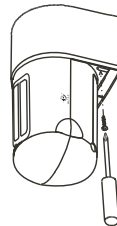

Fig. 18
5. Clamp the sensor to the bracket with screw. Fig. 18